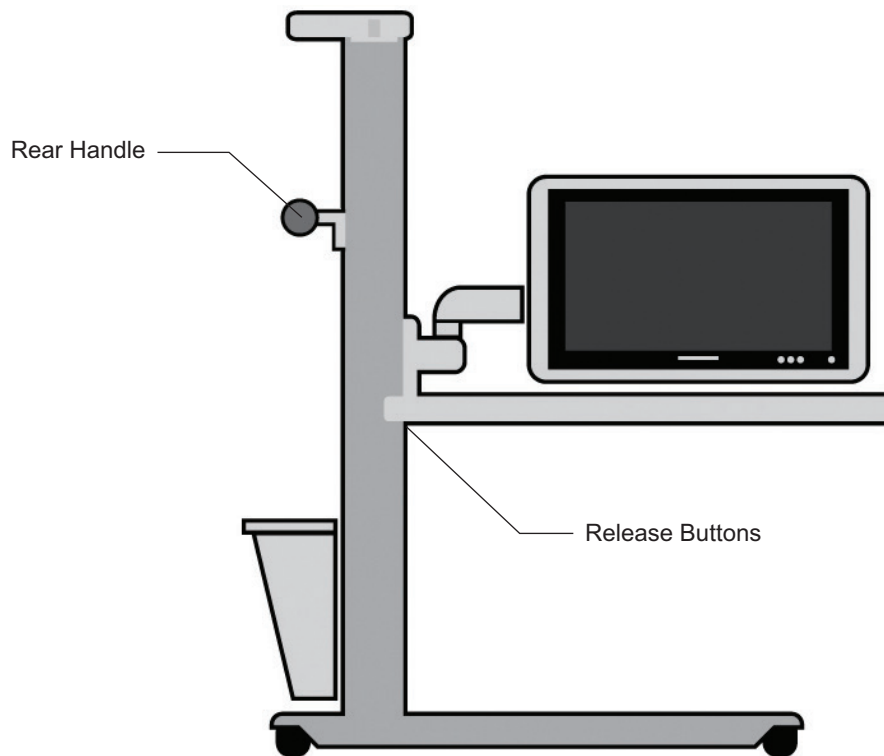

Figure 18: Correct Position for Moving Mobile Stand
4. Lower the Touchscreen PC to the surface of the Bedside Table. See Figure 18.